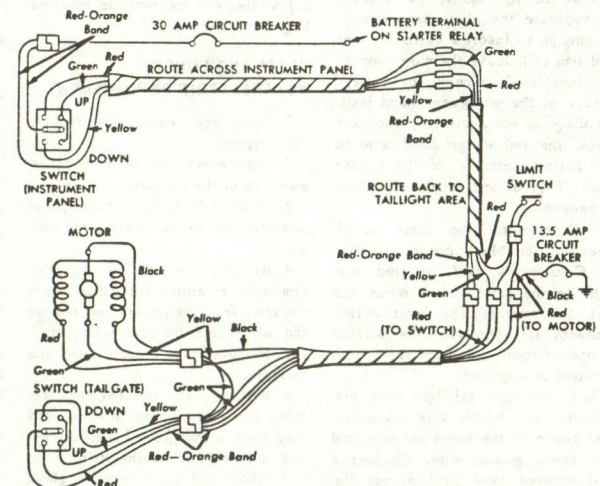

Fig. 6 - Tailgate Power Window Wiring Diagram
1. Check for battery voltage on both sides of the 30 ampere circuit breaker. Replace or repair the wiring or circuit breaker as required (Fig. 6).
4. In the right taillight area (Fig. 6), separate the blue connector enough to insert a voltmeter test lead and still leave the connector functional. Check for battery voltage at the red-orange band lead. Repair or replace the wire if necessary.
1. With a self-powered test light, test the switch (Fig. 6). The tail-
1. In the right taillight area, separate the blue wire connector enough to insert a voltmeter test lead and still leave the wire connector functional. Check for battery voltage at the red-orange band lead. If voltage is not available, trace and check the red-orange band wire to the battery terminal of the starter relay (Fig. 6) and repair or replace as necessary.
1. In the right taillight area (Fig. 6), separate the blue wire connector enough to insert a voltmeter test lead and still leave the wire connector functional. Check for battery voltage at the red-orange band lead. If voltage is not available, trace and check the red-orange band wire to the battery terminal of the starter relay (Fig. 6) and repair or replace as necessary.
2. Disconnect the limit switch wires at the black connector (Fig. 6). Connect a self-powered test light to the limit switch wires and test the switch. The limit switch contacts are open when the tailgate is open. Repair or replace the switch or wires as required.